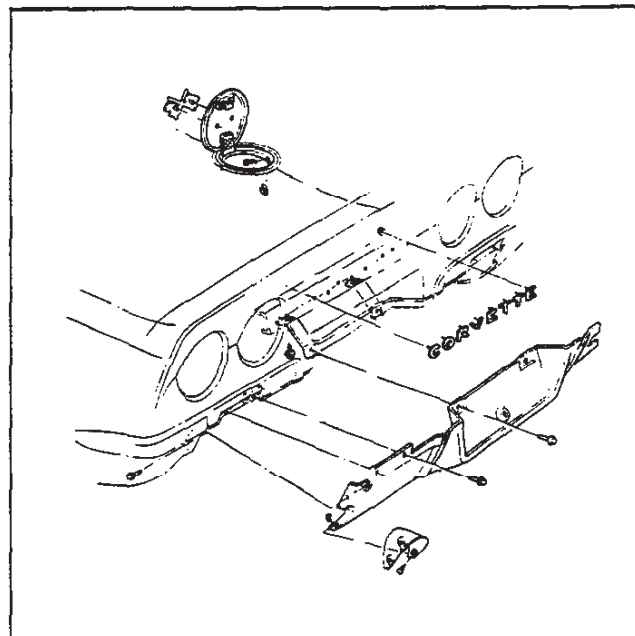

Fig. 40—Gas Tank Door and Rear Trim
Figure 40 illustrates installation details of gas tank door, letter trim, and tail pipe bezel.
3. Remove eight (8) mounting screws retaining filler panel to body (fig. 40).